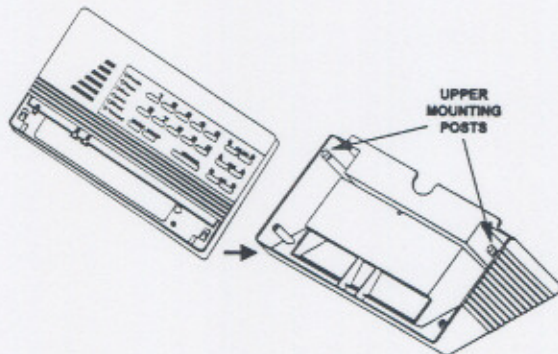

Figure 4. Mounting the Panel on the Base
- 1) Align the top mounting holes on the back of the panel with the upper-mounting posts on the base (see Figure 4).